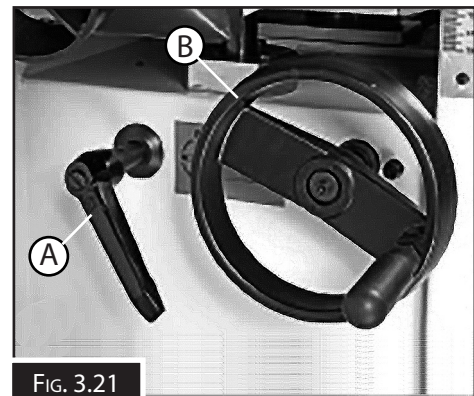
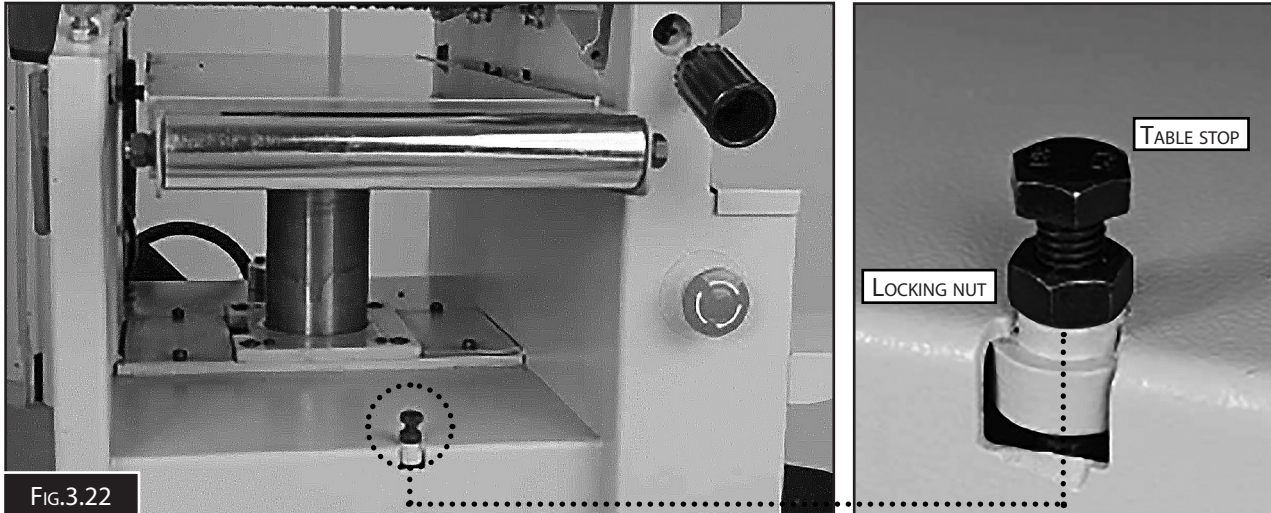

FIG. 3.21
FIG.3.22
2. Release the rise and fall clamping handle ("A" in Fig.3.21) and turn the operating wheel ("B" in Fig.3.21) counter clockwise to lower the thicknessing table until the pointer reads 190 on the PT-254S scale or 225 on the PT-305S and check that the stop is up against the under side of the thicknessing table. If not, loosen the locking nut and adjust the stop then re-tighten the nut to lock the setting. (Fig.3.22)